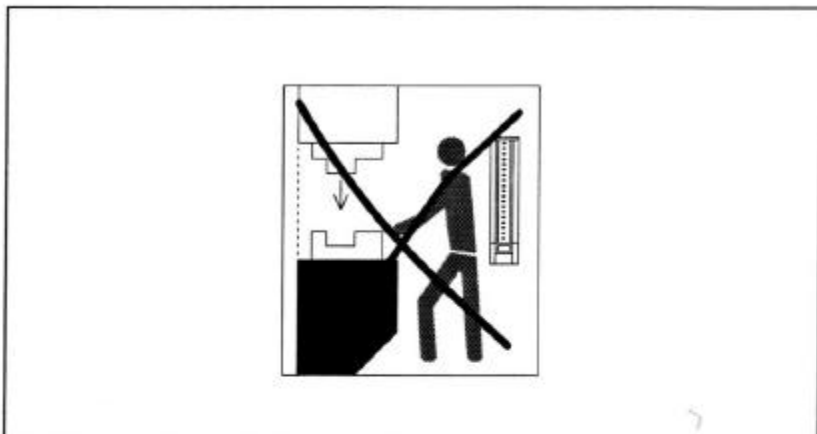

Figure 4-3 Danger of standing in front of the sensing field
- No-one is allowed to stand between the sensing field and the danger points (Figure 4-3).